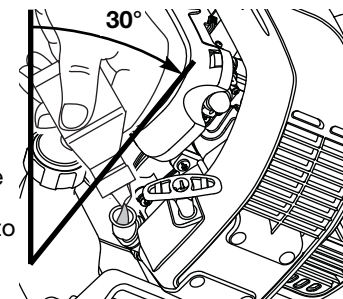

Fig. 11
3. Tilt the unit backwards 30° (Fig. 11).
4. Pour the entire bottle of oil into the oil fill hole (Fig. 11).